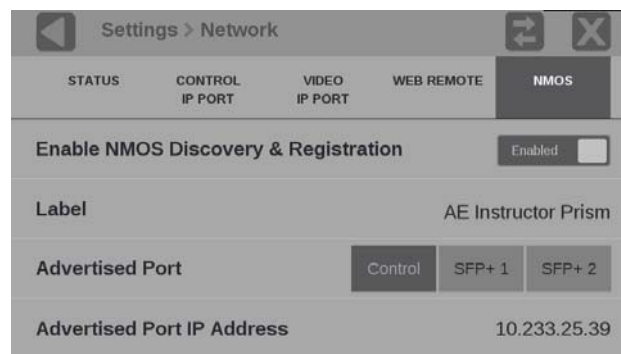

Figure 53: NMOS discovery and registration enabled
3. Move the **Enable NMOS Discovery & Registration** control to **Enabled** or **Disabled**. (See Figure 53.)